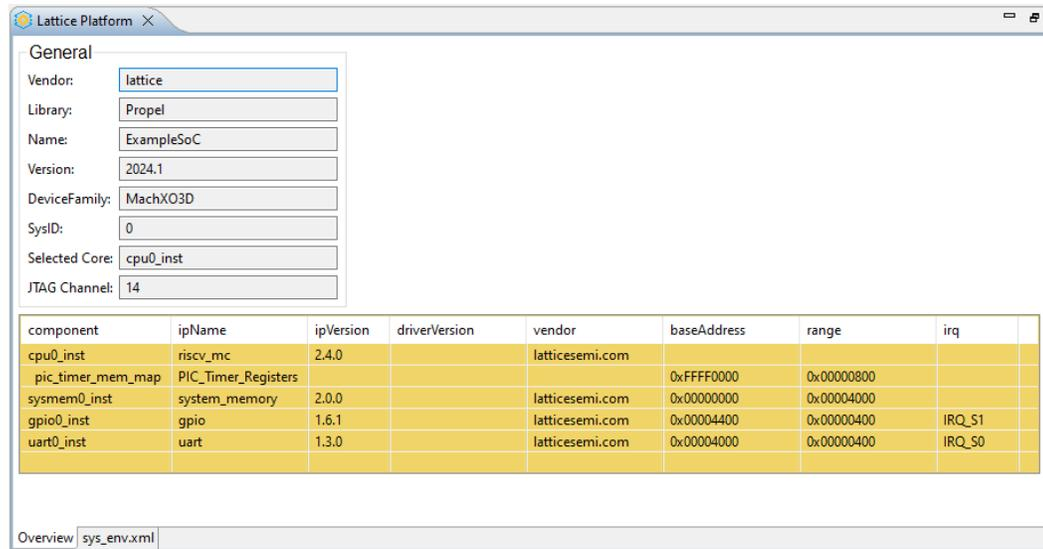

Figure 3.28. Lattice System Platform
- Lattice System Platform: An overview of the processor platform can be displayed (Figure 3.28).